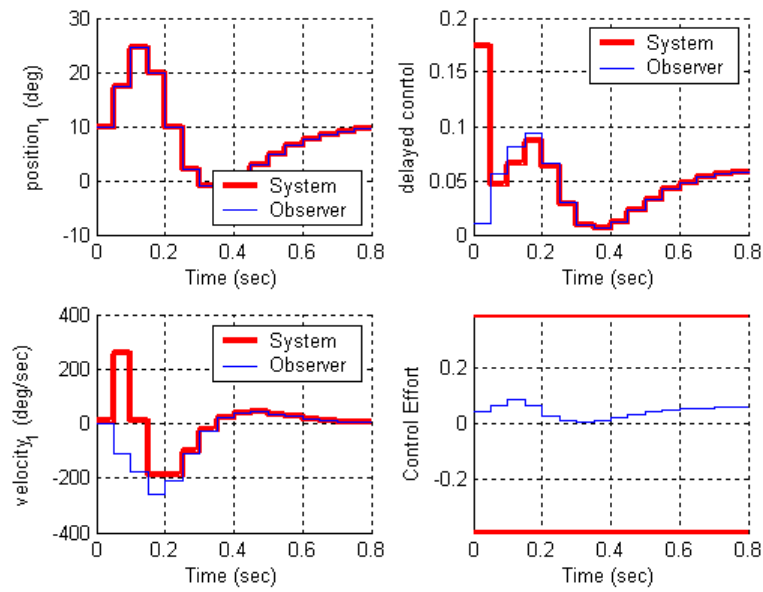

Figure 1. Results for problem 1b.
b) Assume the only known state is the position, and the output is the position of the disk. Use a sampling interval of 0.05 seconds, assume all the state feedback poles are at 0.5, and the observer poles are at 0.2 and 0.3. Also assume the system initially starts at a position of 10 degrees, with an initial velocity of 10 degrees, and an initial delayed input of 10 degrees (be careful of units here! The model works in radians.). The initial estimates of the observer are zero. For a 10 degree step input you should get the graph shown in Figure 1. Turn in your plot.